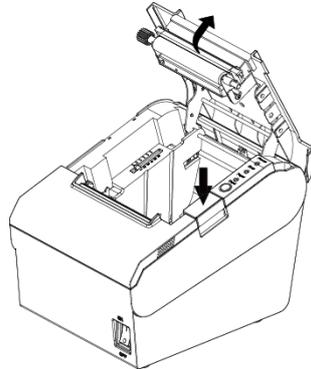

Figure 4.6.1
- 2) Pressing the open button, open the top cover of VT300 ( Like figure 4.6.1 )